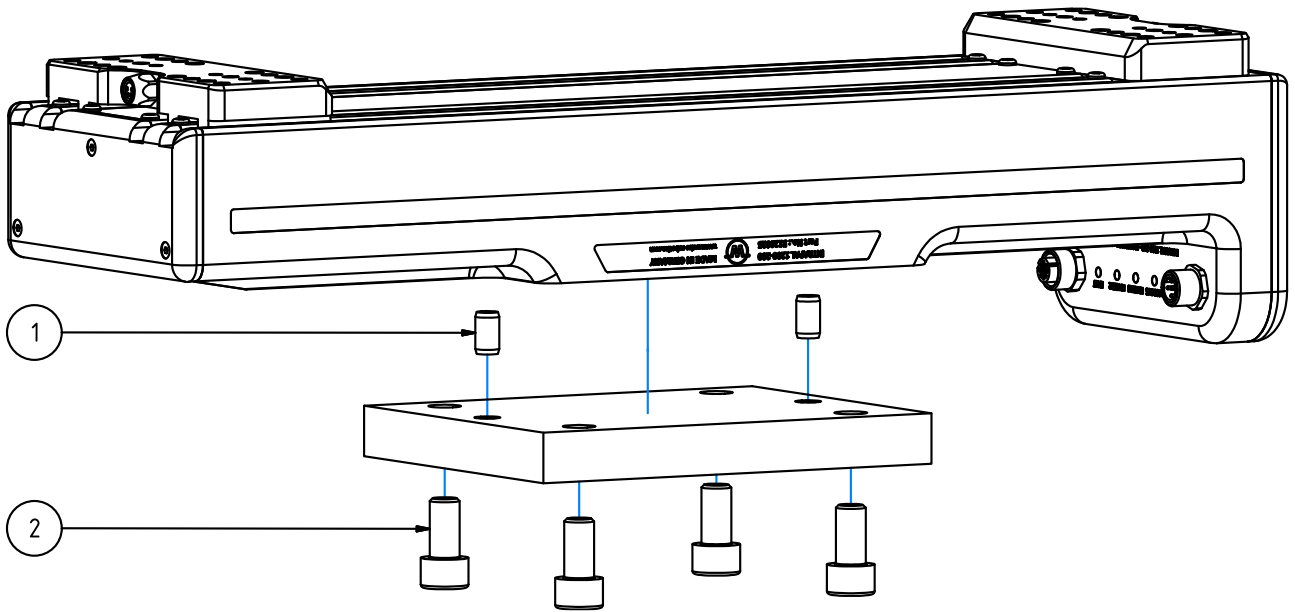

Figure 12: Mounting the gripping module
The gripping module can be mounted from below against a surface (Figure 12). The dowel pins (1) must be used for mounting and are included in the gripping module accessory pack.